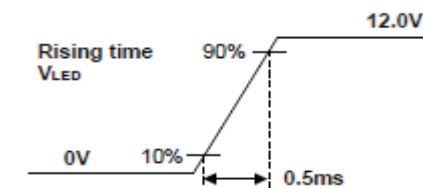

Figure 5. Inrush Measure Condition
3. Measure condition (Figure 5)